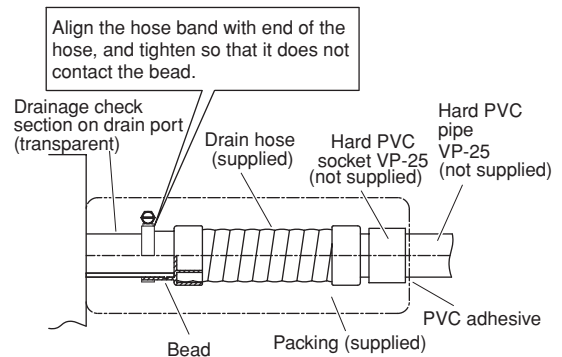

Fig. 3-39
The PVC pipe must be purchased separately. The unit's transparent drain port allows you to check drainage. (Fig. 3-39)
- Tighten the hose clamps so their locking nuts face upward. (Fig. 3-39)